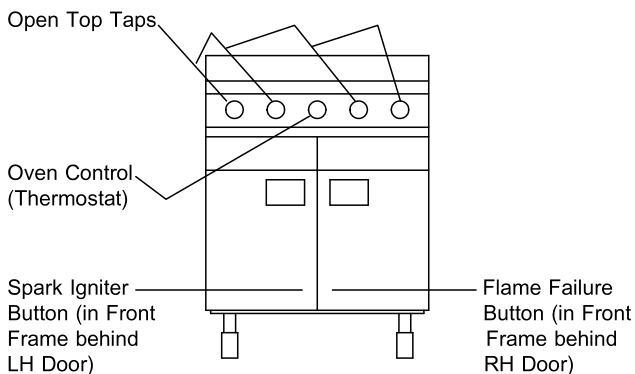

Figure 1 - Open Top Range
- Open oven doors to gain access to the flame-failure and igniter buttons (see Figures 1 & 2).